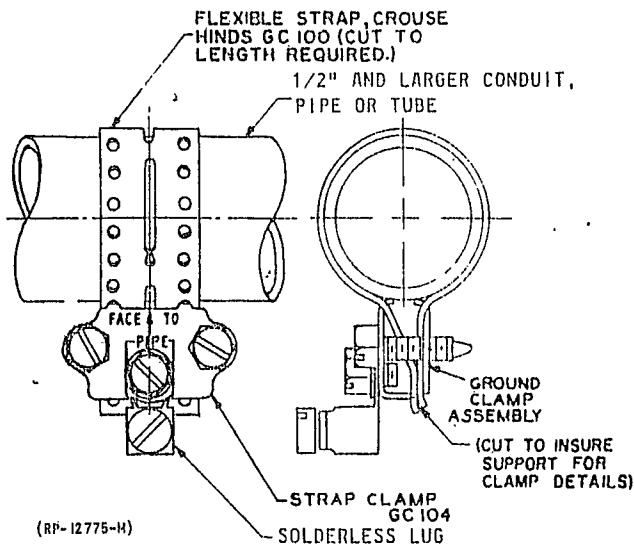

FIG. 10 FLEXIBLE STRAP CROUSE HINDS NO. GC-100 AND GROUND CLAMP CROUSE HINDS NO. GC-104 FOR USE WITH GROUNDING LEAD SIZES AWG 14 TO 1 (PARS. 9.4, 9.5)
9.4 When grounding conduit and armored cable use No. 14 AWG wire with clamping material shown in Table B and Figure 10 and connect to the nearest ringing ground bar or to the grounded ringing transformer tap if at all practicable, otherwise use any other ground of comparable or larger size. Armored cables may be collectively grounded by one clamp. Preparation of cable ends are detailed in Section 7A, however, when armored cable does not terminate in a connector the antishort bushed armor end should be served with friction tape and shellac prior to clamping.
9.5 Lead covered leads encountered in transition work should be grounded in accordance with Table B and Figure 10. Use No. 14 AWG wire for terminating, or bonding when splicing.